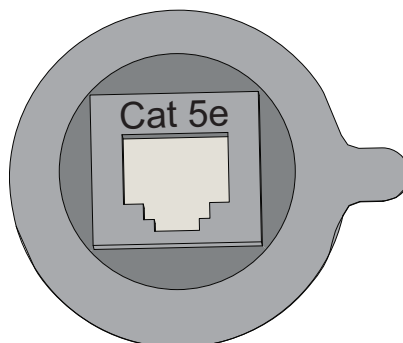

Figure 3-29: Ethernet Connector
**Note:** Figure 3-29 represents the view of the connector from the back of the printer.